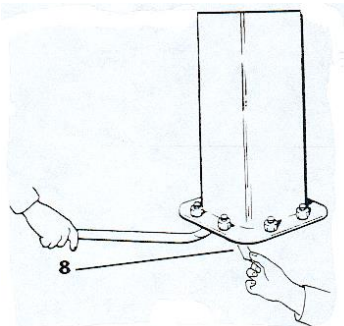

fig. 31
- b) Perfect levelness can be obtained, if necessary, by inserting 8 appropriate spacers (not part of the supply, in correspondence with the stay bolts, under the base plate (fig. 31);